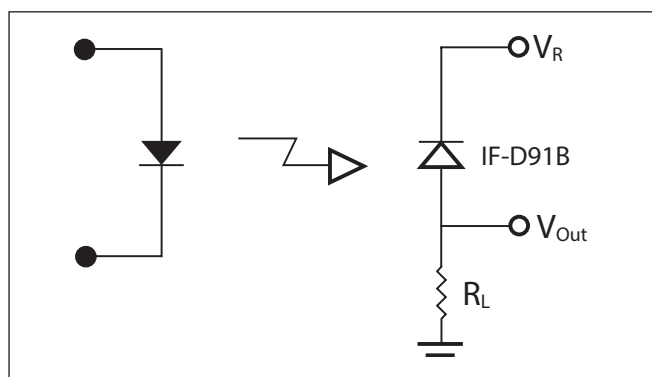
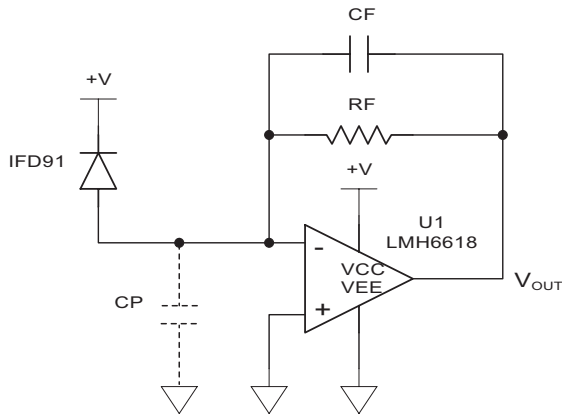

FIGURE 2. Circuit diagram for measuring rise and fall times.
FIGURE 5. Transimpedance amplifier
3. We could change the circuit from the basic resistor (Figure 2) to the transimpedance amplifier (Figure 5).
The circuit shown in Figure 2 can be used for low frequency applications. The output is given by  $V_{OUT} = P_{IN} \times R \times R_L$ . Where  $P_{IN}$  is the power into the IF-D91B and  $R$  is the responsivity at the wavelength used. The bandwidth is limited by the IF-D91B capacitance, the circuit capacitance and  $R_L$ ,  $BW = \frac{1}{2 \times \pi \times R_L \times C_T}$ .
The circuit shown in Figure 5 can be used for higher frequency and higher gain applications. It uses an opamp configured as a transimpedance amplifier. This will convert the current output of the IF-D91B photodiode to a voltage. The output is inverted (output low with light input). The output is given by  $V_{OUT} = -I_D \times R_F$ . Where  $I_D$  is the current from the IF-D91B. Capacitor  $C_F$  may be needed for stability to cancel the total capacitance connected to the negative input of the opamp. This capacitance is the sum of the IF-D91B capacitance, the opamp input capacitance and any stray parallel capacitance ( $C_P$ ) from the circuit board.  $C_T = C_{IFD91} + C_{U1} + C_P$ . For stability the value of  $C_F$  should be at least
Continuing with the previous example, the power into the IF-D91B was 31.1 uW and the detector current,  $I_D$ , was 12.4 uA. The LMH6618 Op-amp shown in Figure 5 has an input capacitance of 1.5 pF and a large signal gain bandwidth product of 15 MHz. For  $V_{OUT} = 5$  Volts the value of  $R_F$  would be 402 kOhms. We will assume the stray board capacitance is 1 pF giving a total capacitance of  $C_T = 5.5$  pF. Using the above equation for  $C_F$  gives a value of 0.38 pF. Using the equation for bandwidth yields  $BW = 1.0$  MHz which is plenty for this application.